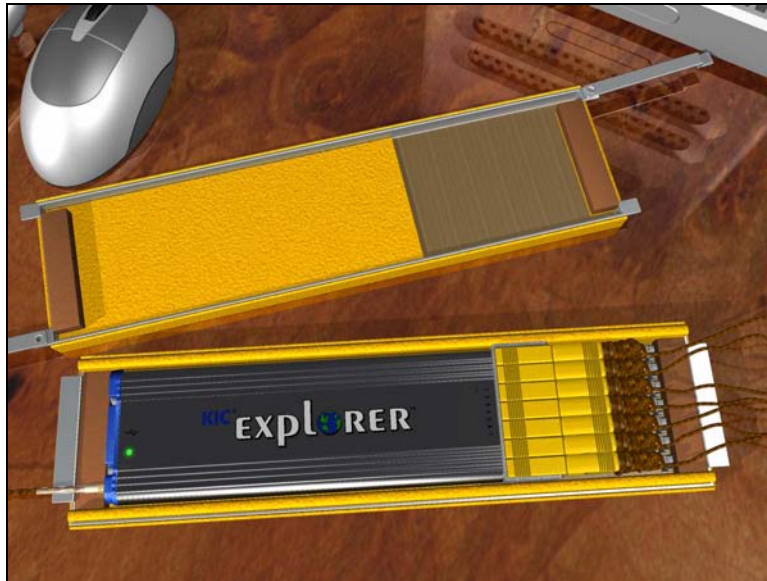

Figure 22: 7 Channel KIC Explorer
- The *KIC Explorer* antenna should extend fully, and exit from the back of the thermal shield. See Figure 22.
Once the *KIC Explorer* is set inside the bottom half of the thermal shield and the thermocouple wires and antenna are properly routed, verify the *KIC Explorer* is on by viewing the LED near the *On/Off* button. See Figure 22.